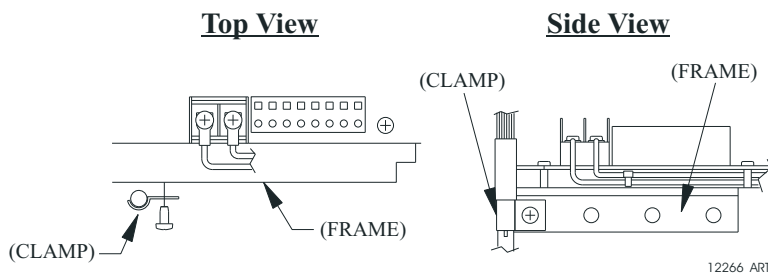

Figure 4-8: Clamp Views
- J Secure the seven-conductor cable to the frame using a conductive Clamp. Ensure that the Clamp and Shield wire come in contact with one another. Refer to Figure 4-8: Clamp Views.